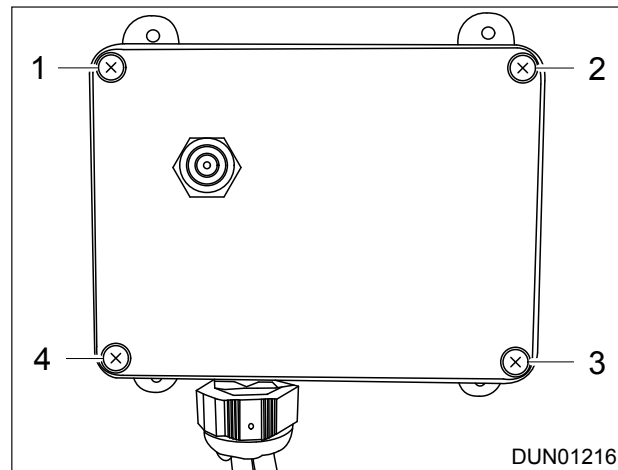

Figure 7.27 - RTG Receiver
2. Open the cover of the RTG Receiver by removing the four screws in the lid, Ref: Figure 7.27.